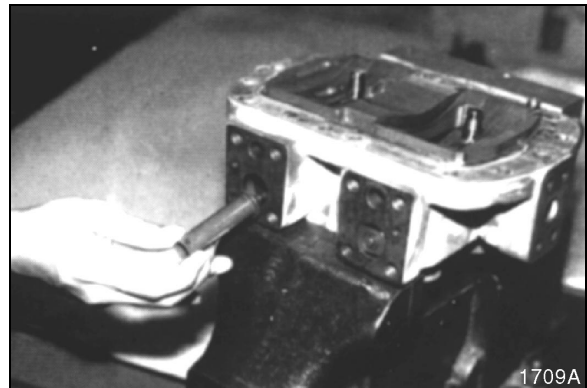

Figure 115
11. Install spring seat. See Figure 115.